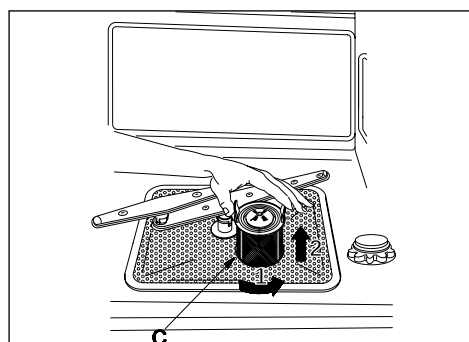

fig. 16a
**Filters** (see fig. 16a, 16b, 16c, 16d)
- Remove the filter group (C). Press the lips together slightly and unscrew the filter group by turning it to the left (anticlockwise) (1).
Take out the filter assembly by pulling it vertically upwards (2) (see fig. 16a).